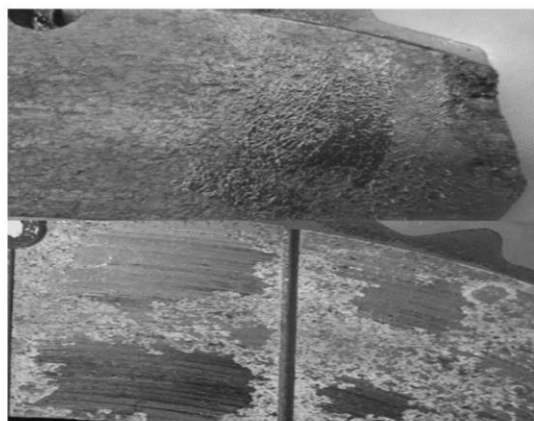

Figure 13. Examples of Pads that need to be replaced
If the thickness (A) at the thinnest point of the rotor is less than 37 mm, the rotor must be replaced. Pads should be replaced immediately if: (See Figure 13).